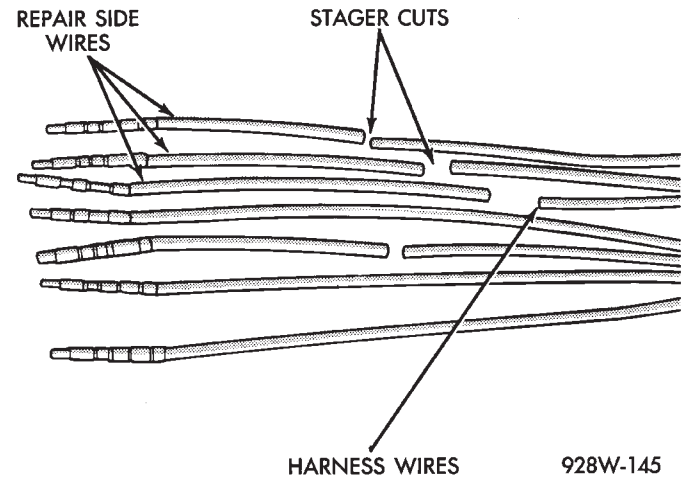

Fig. 9 Stagger Cutting Wires
- (1) Disconnect Battery.
- (2) Disconnect the connector being repaired from its mating half.
- (3) Cut off the existing wire connector directly behind the insulator. Remove six inches of tape from the harness.
- (4) Stagger cut all wires on the harness side about 1/2 inch apart (Fig. 9).
- (5) Remove 1 inch of insulation from each wire on the harness side.
- (6) Stagger cut the matching wires on the repair connector assembly in the opposite order as was done on the harness side of the repair. Allow extra length for soldered connections. Check that the overall length is the same as the original (Fig. 9).
- (7) Remove 1 inch of insulation from each wire.
- (8) Place a piece of heat shrink tubing over one side of the wire. Make sure the tubing will be long enough to cover and seal the entire repair area.